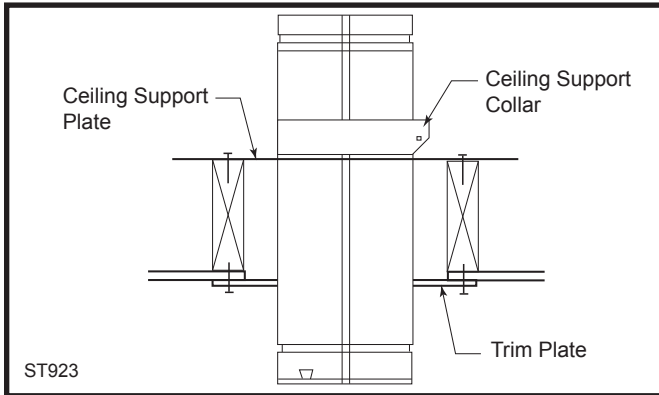

Fig. 35 Ceiling support.
Vertical installations can be supported by two methods: Ceiling Support (CS) (used in flat ceiling installation) comes with a support plate and a support collar. Install it by screwing the support plate to the top of the properly framed ceiling joist opening, using screws provided. A round trim plate (TP) is attached to the ceiling, using screws, to provide a finished appearance once installed. (Fig. 35)